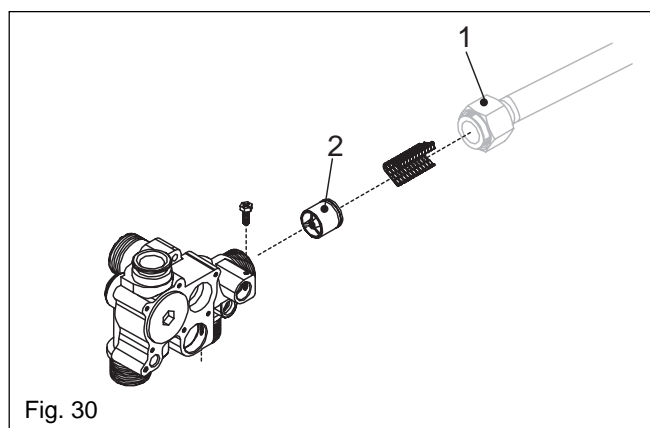

Fig. 30
6.19 AUTOMATIC BYPASS (see fig. 30)